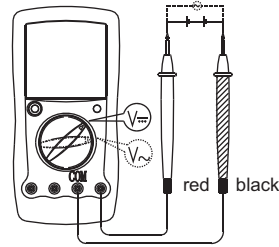

Figure 3
A.Measuring DC Voltage (See Figure 3)
B.Measuring AC Voltage (See Figure 3)